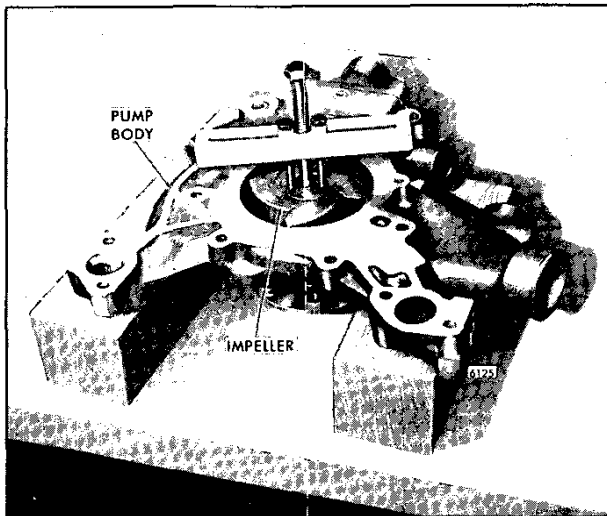

Fig. 3 - Removing Water Pump Impeller Using Tool J 29190-A
1. Use tool J 29190-A to pull the impeller off the water pump shaft (Fig. 3).